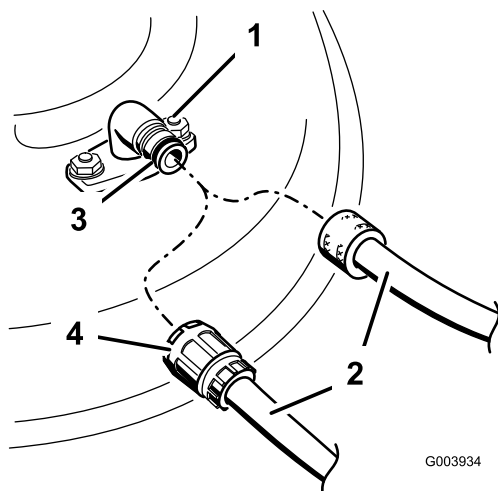

Figure 23
4. Attach a hose to the washout fitting, and turn the water on high (Figure 23).